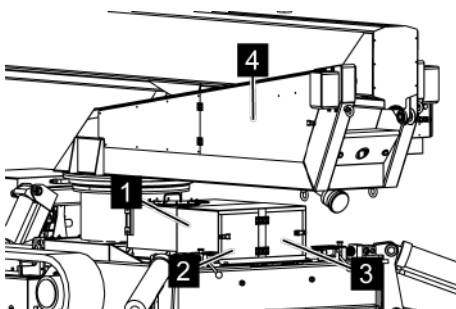

Fig. 141: Shuttle valves door
2. ➔ Open doors (Fig. 141/2 and 3) or completely and remove the cover (Fig. 141/1).
3. ➔ Open the door (Fig. 141/4).